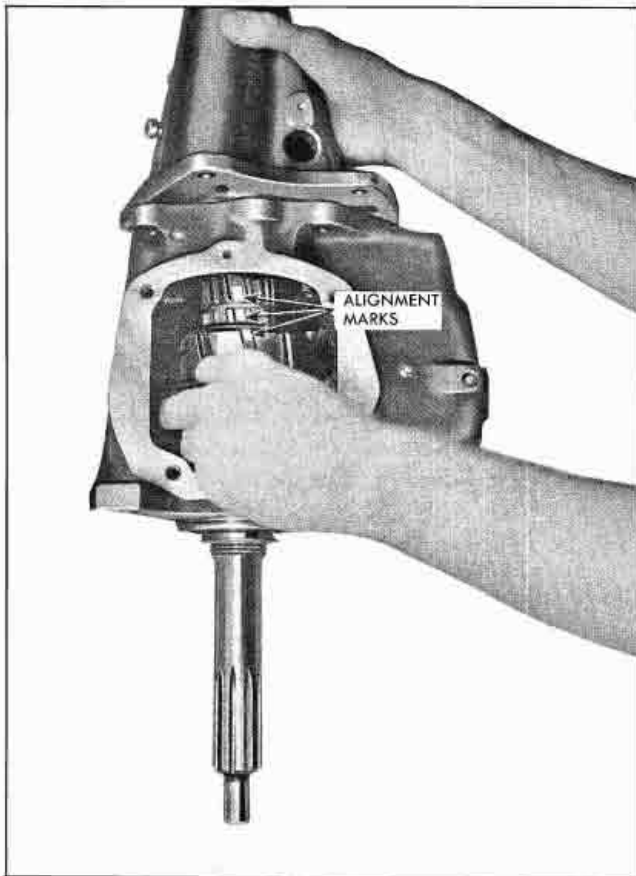

Fig. 7-54 Installing Mainshaft in Transmission Case
4. Lower mainshaft assembly through opening at rear of transmission case, making certain two inner lugs of synchronizing ring engage previously marked grooves of mainshaft and second speed gear (Fig. 7-54).